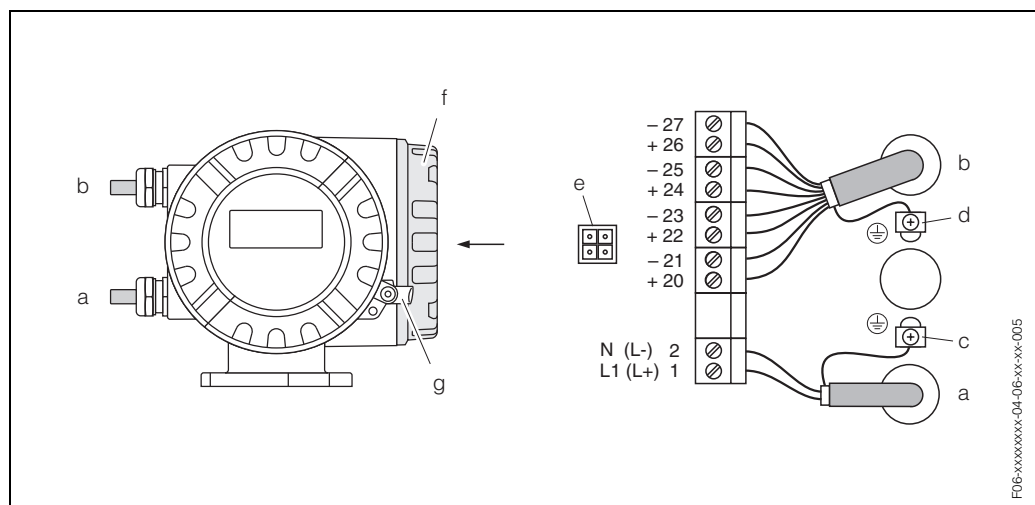

Fig. 32: Connecting the transmitter (aluminium field housing). Cable cross-section: max. 2.5 mm²
- Wiring diagram (aluminium housing) → Fig. 32